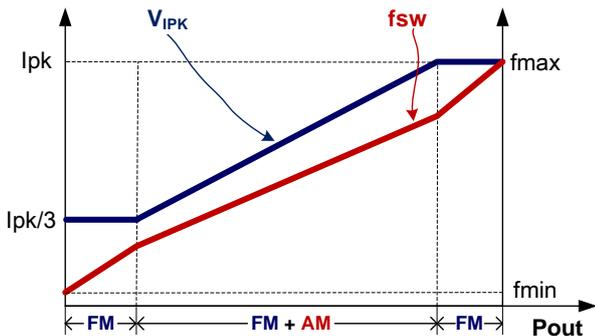

Fig.2
To meet the tight requirement of averaged system efficiency and no load power consumption, a hybrid of frequency modulation (FM) and amplitude modulation (AM) is adopted in KP328X which is shown in the Fig 2.